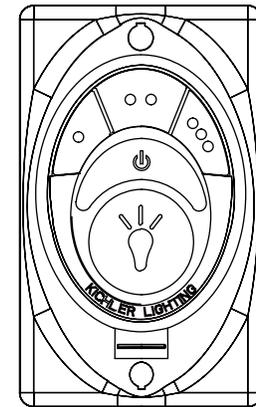

Fig. 29
Step 5. The buttons control the fan speed and light as follows: (Fig. 29)